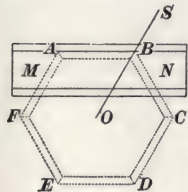

FIG. 35.
**SOLUTION.**—In Fig. 35, let  $AB$ ,  $BC$ ,  $CD$ , etc. represent the pieces of molding as they will fit around the column. First find the size of one of the equal angles of the polygon by the above rule. Number of sides = 6;  $6 - 2 = 4$ ; hence,  $180 \times 4 = 720$ , and  $720 \div 6 = 120^\circ$  in each angle. Now, let  $MN$  represent the miter-box and  $OS$  the direction in which the saw should run; then,  $ABO$  is the angle made by the saw with the side of the miter-box; but as the polygon is a regular one, this angle is one-half the interior angle  $ABC$ , which we have found to be  $120^\circ$ .